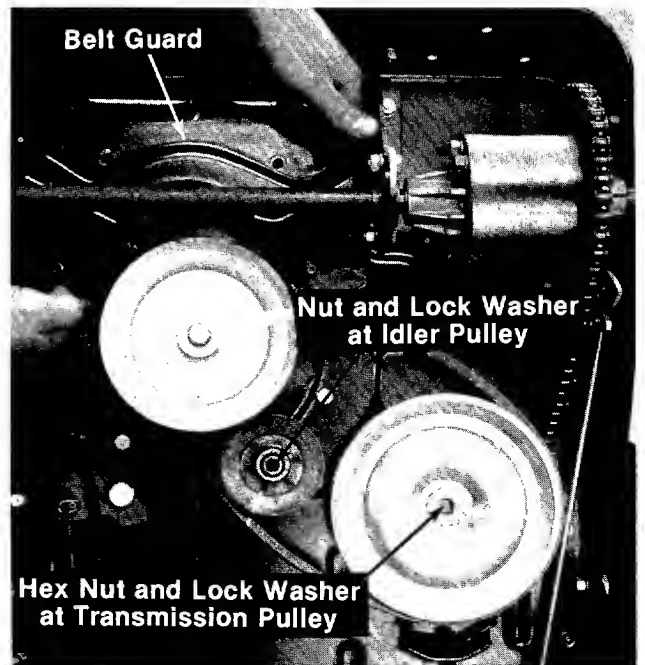

FIGURE 21. ENGINE BELT GUARD REMOVAL
4. Remove the belt guard at the engine pulley. See figure 21.
5. Remove the nut and lock washers at the idler pulley. See figure 21.
6. Remove the hex nut and lock washer at the transmission pulley. See figure 21.